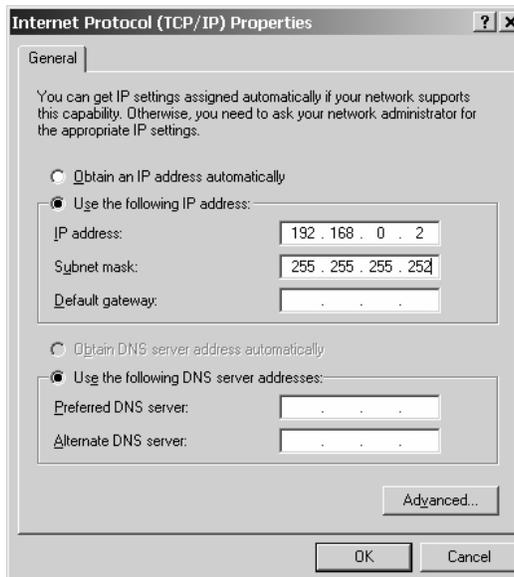

Figure 117: Internet Protocol Properties
6. Click the **Properties** button. The Internet Protocol Properties window appears. See Figure 117.